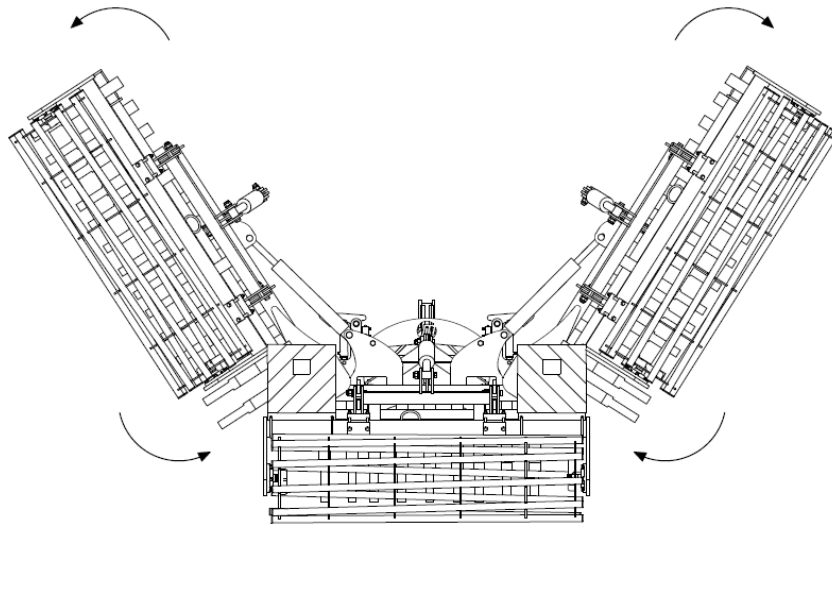

Fig. 7 Implement opening sequence: open the implement paying particular attention to the height of the arm ends from the ground.
4. When opening the implement's side extension arms, make sure that the ends of the arms are at the correct height to prevent them from snagging on the ground (Fig. 7).